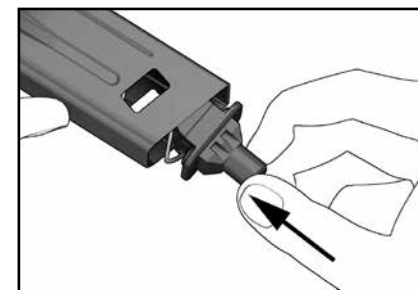

Figure 30
4. Push the locking plate into the magazine housing against the pressure of the magazine spring and hold it there. (Figure 30)